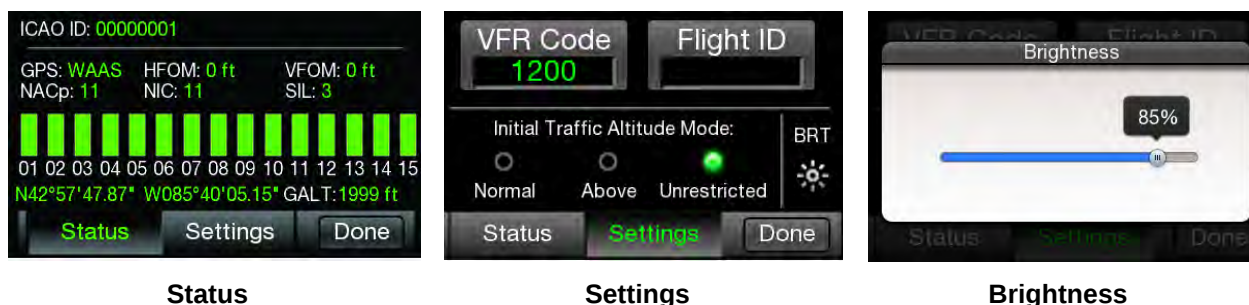

Figure 3-23: Options Screen...
1. Press the gear shaped “Options” button located at the top right of the traffic screen. See Figure 3-23.